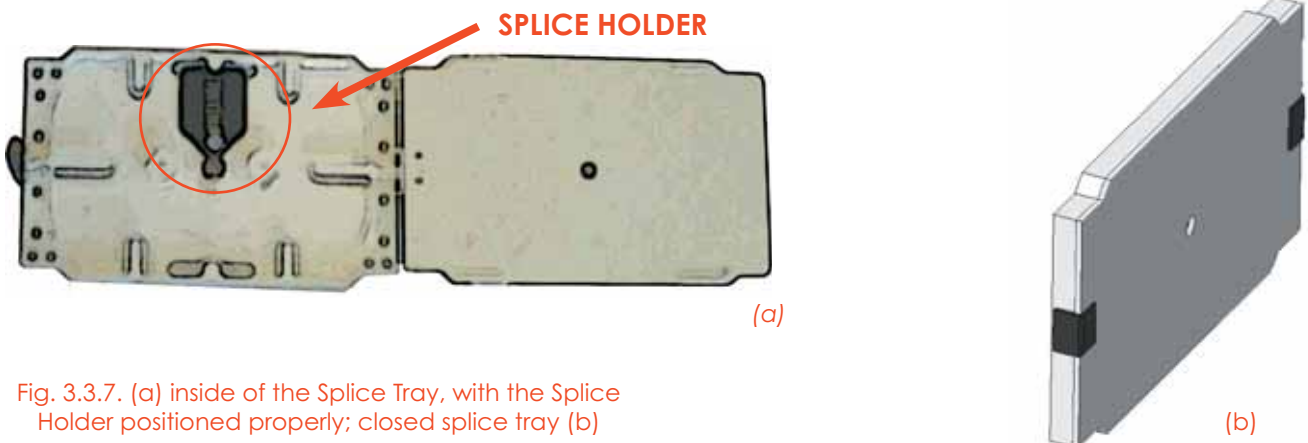

Fig. 3.3.7. (a) inside of the Splice Tray, with the Splice Holder positioned properly; (b) closed splice tray
5. Fix the splice holder inside the splice tray (not included) See Fig. 3.3.7 a,b.